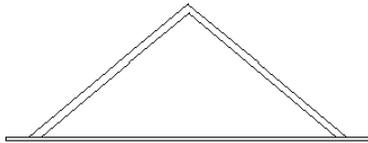

Figure 4-7: Part of a portico over a window, drawn using relative Cartesian and polar coordinates in architectural notation.
5. Save your drawing. You have created a portion of a portico, which goes over a window of a house, as shown in Figure 4-7.